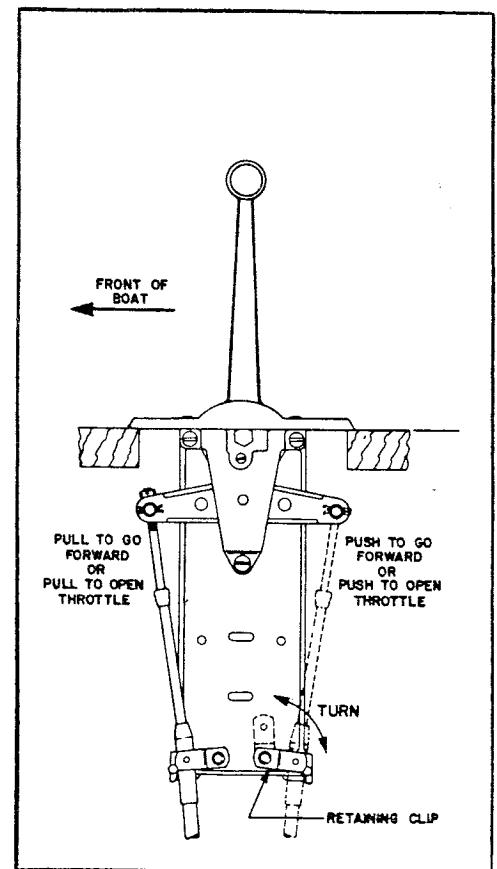

FIGURE 2
- A. Determine from the clutch connection kit and/or engine transmission whether cable is to be connected for PULL TO GO FORWARD or PUSH TO GO FORWARD operation. (See Figure 2).
- B. This control uses an adjustable terminal (25) with a locking clip (24), therefore, remove and discard locking nut furnished with the cable. Thread terminal (25) onto cable until about 1/4" of threads are still showing.
- C. Lubricate terminal (25), attach locking clip (24) (as shown in exploded view) and place in proper hole in lever (22) and fasten cotter pin (21).
- D. Turn cable anchor retaining clip (Figure 2) to uncover anchor slot at bottom of hanger support. Place cable hub in anchor slot, turn retaining clip over hub of cable.